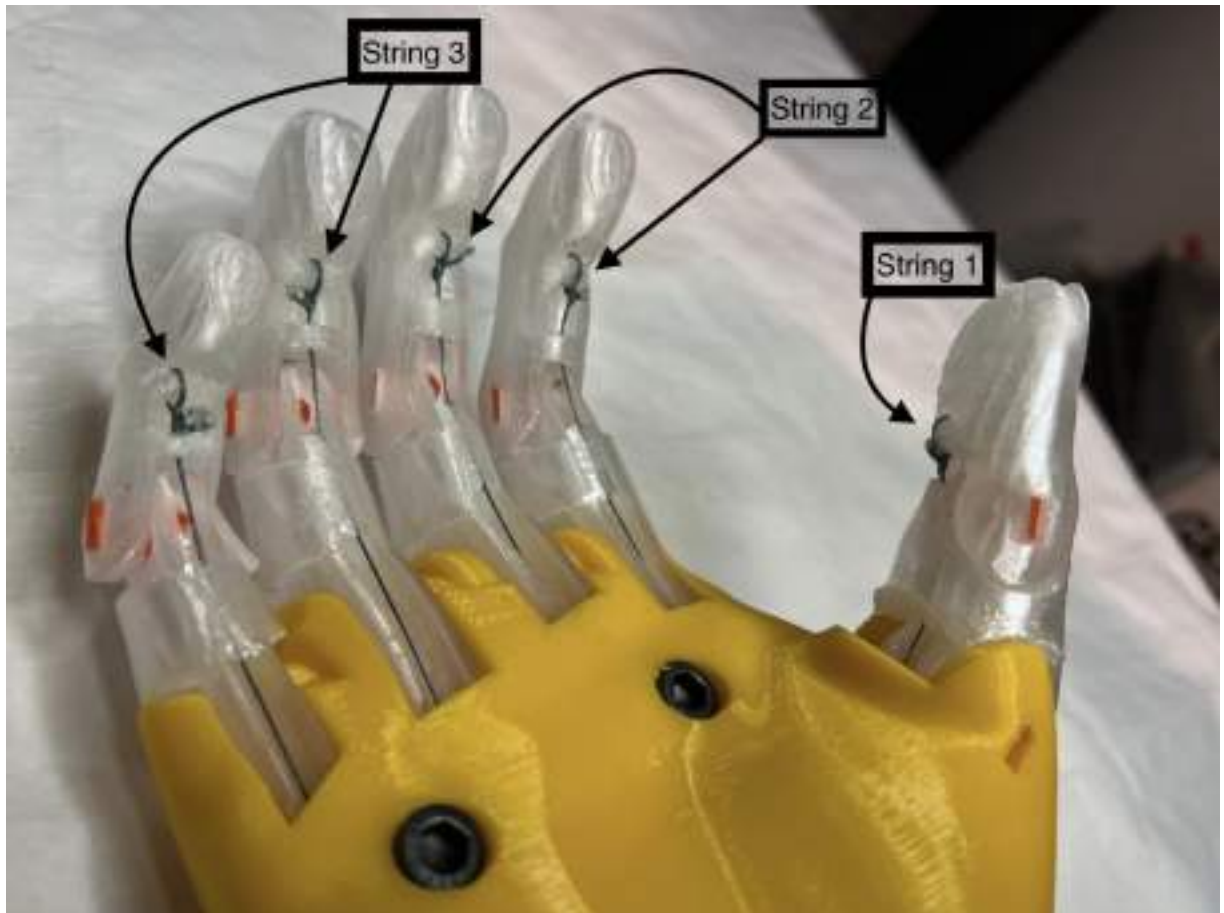
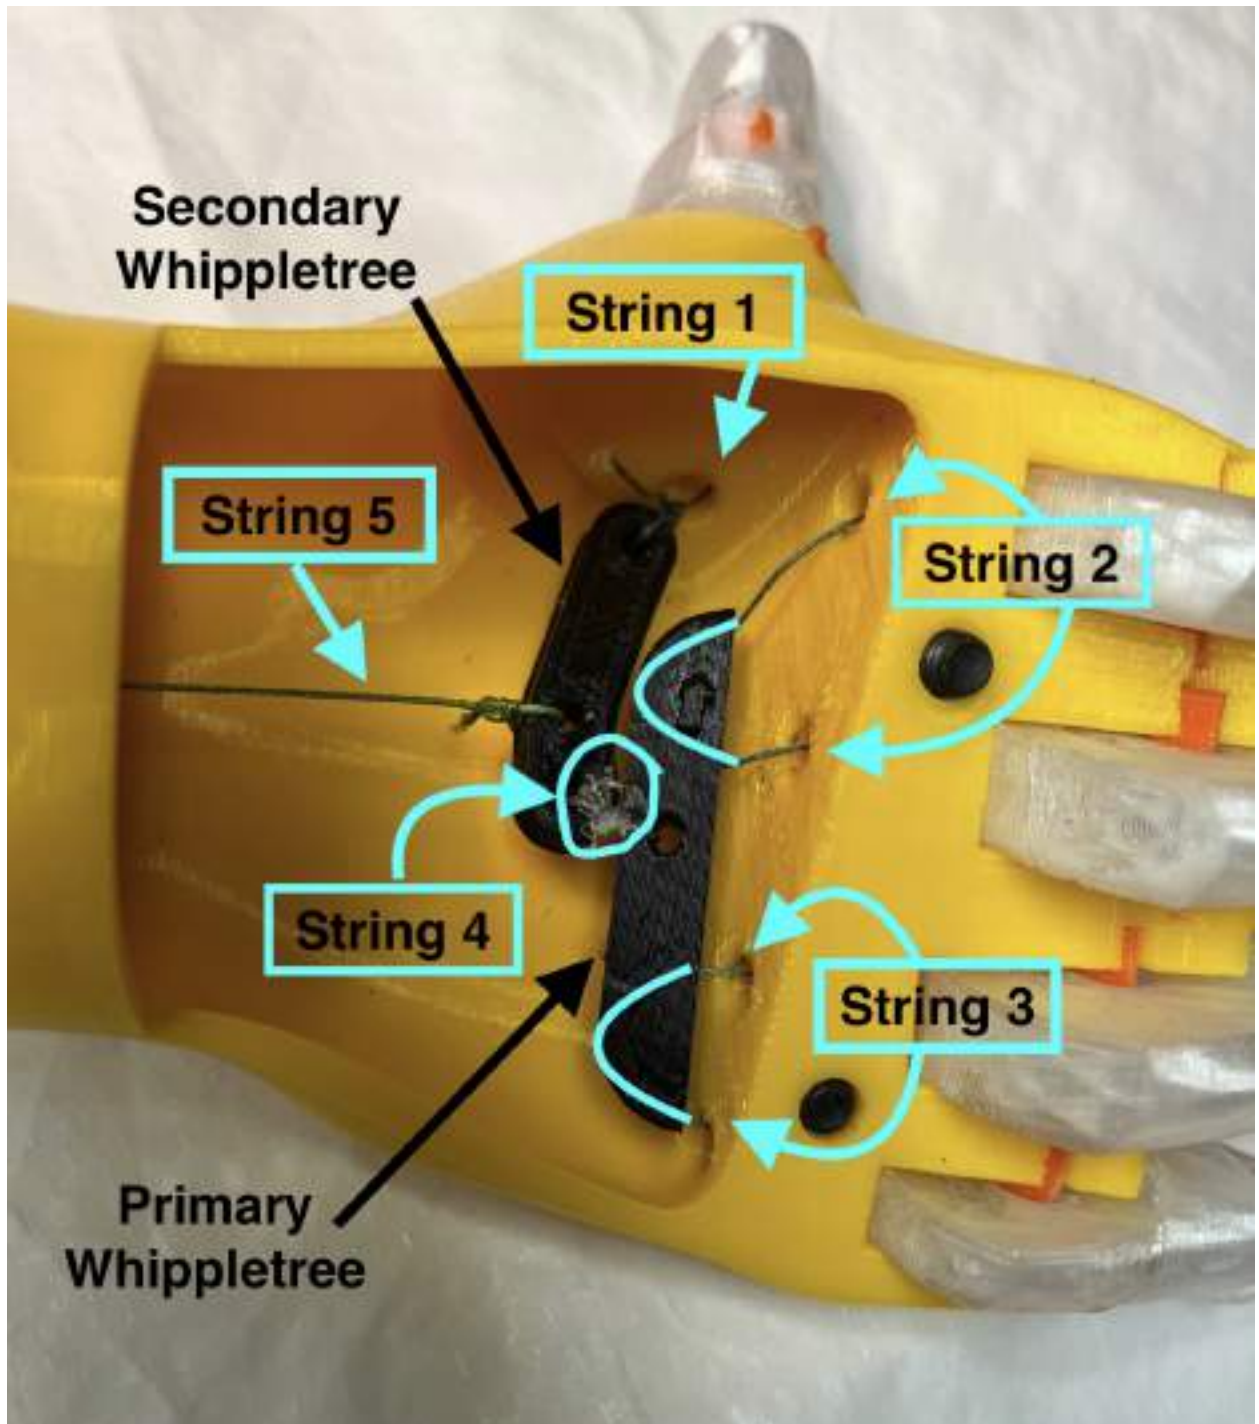
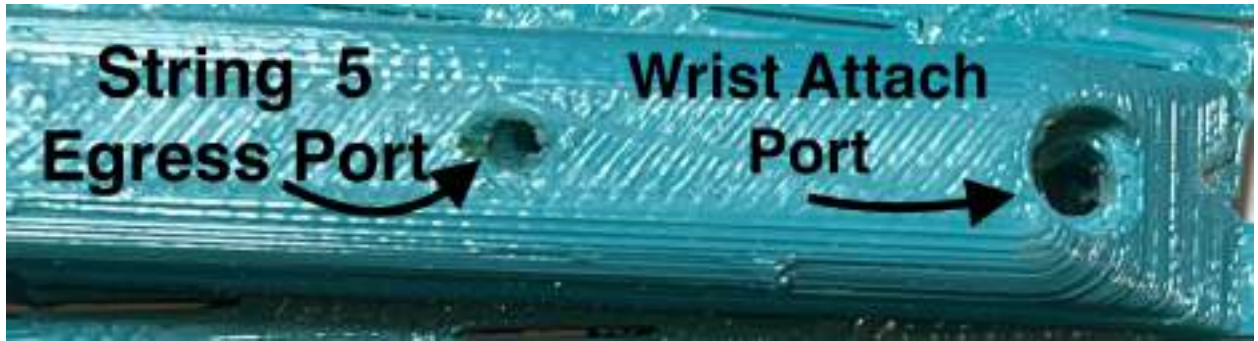

Figure 1: Stringing the Hand: Fingers
Figure 2: Stringing the Hand: Palm
Figure 7: Lower Arm Brace showing String 5 Egress and Forearm to Wrist Attach
3. Stringing the hand is fairly straightforward and much easier than previous Kwawu versions. Figure 1 shows the fingers and the stringing route. Figure 1 along with Figure 2 show a right hand strung appropriately. A left hand (not shown) would be the mirror image of these figures.
4. There is a structure at the end of each finger for tying a knot. Use Super glue to fix the knots from slipping. Note that the long end of the secondary whippetree is toward the thumb and String 1 from the thumb connects to it (Figure 2). String 2 connects index finger end to middle finger end via the thumb end of the primary whippetree. Note the imprinted arrow on the primary whippetree will point toward the thumb. String 3 connects the ring finger end to pinky finger end via the end opposite the thumb end of primary whippetree.
5. Figure 2 shows how the whippetrees are connected to the fingers (Strings 1,2, and 3) and the whippetrees to each other (String 4). String 5 connects to the center hole in the Secondary Whippetree and extends to the Tensioner (Tensioner not shown). String 5 needs to be long enough to reach from the secondary whippetree to the bicep areas of the recipient's arm. It is recommended to attach String 5 later in the assembly process (see Latch Assembly Step 6).
6. As shown in Figure 2, with all fingers extended, the the Primary Whippletree should be close to the area in the Palm where Strings 2 and 3 enter the palm area. When the Whippletrees are tied together (String 4) and thumb extended, the thumb side of secondary whippletree should be close to the palm area where String 1 enters the palm. This will give the whippletrees adequate room to move when fingers and thumb are clenched.
6. Push one end of String 5 through the Egress Port in Arm1 (see Figure 7) then thread it into the WristBolt and into the Palm cavity. Attach the string to the center hole of the Secondary Whippletree as shown in Figure 2. This description is applicable to both Leather and Plastic options.